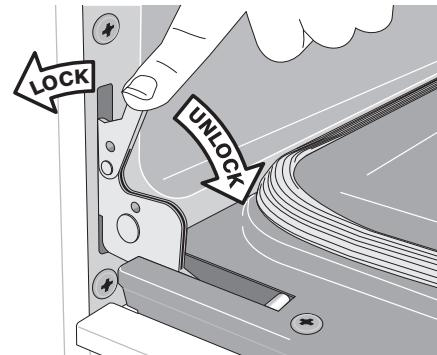

Figure 16: Door hinge Locks
2. Pull the door hinge locks on both left and right door hinges down from the oven frame completely towards the oven door (See Figure 16). A tool such as a small flat-blade screwdriver may be required.